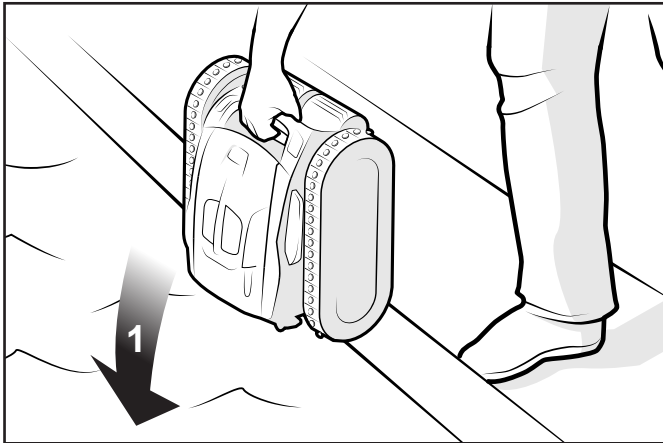

Figure 5. Submerge the Cleaner Vertically
2. At the center point, submerge the cleaner in the pool and hold in the vertical position to release any air trapped inside (Figure 5).